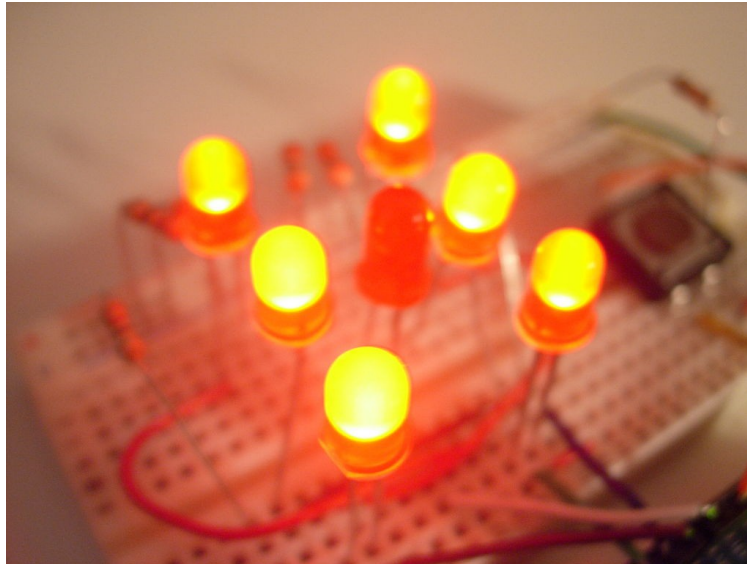

Figure 7– An LED dice
- b) Now try and create a single LED dice (see Figure 7).